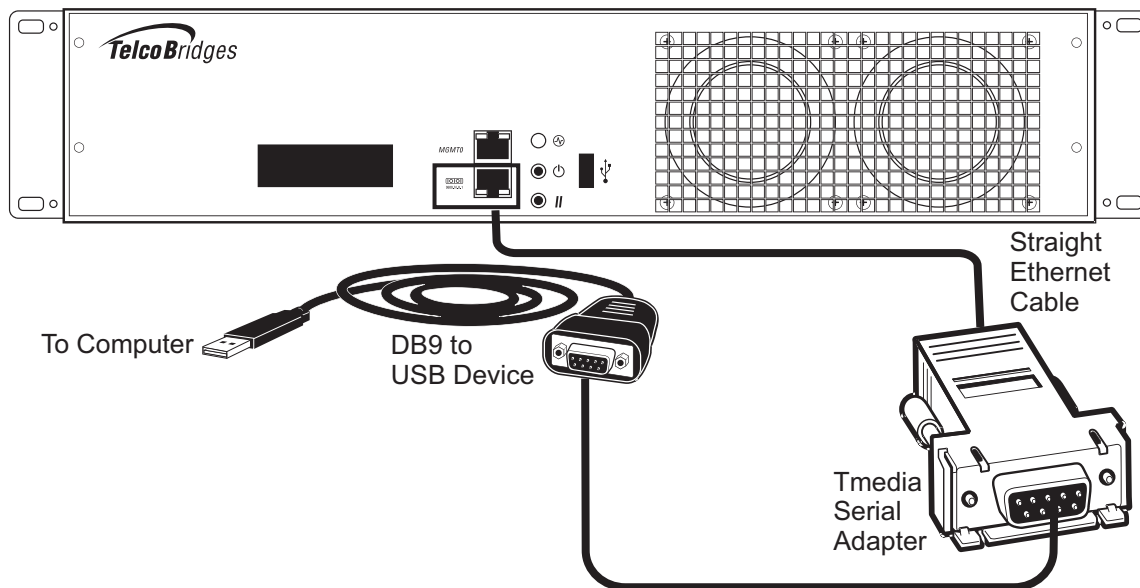

Figure 3.2
2. If your computer's serial port features a DB9 connector, use the Tmedia serial adapter supplied with your 3200 series gateway. If your computer's serial port features a USB connector, you will need to provide a USB to DB9 adapter. Refer to figure 3.2 on page 56.